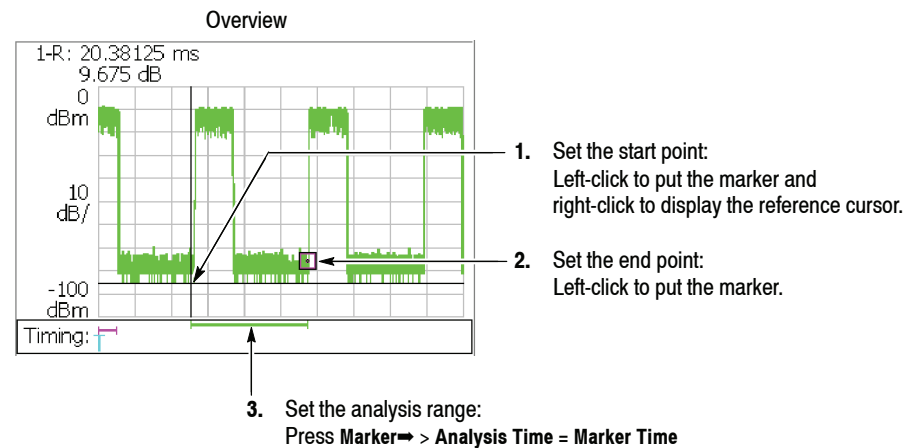

Figure 3-35: Specifying the analysis range using the mouse
2. Move the mouse pointer to the measurement start point, and then left-click to put the marker on it. See Figure 3-35.